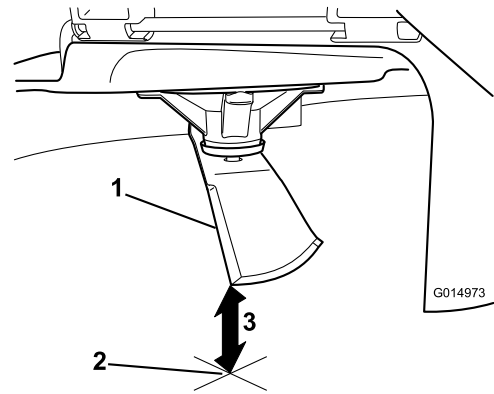

**Figure 91**
3. Measured distance between blade and the surface (A)
4. Rotate the same blade 180 degrees so that the opposing cutting edge is now in the same position (Figure 91).